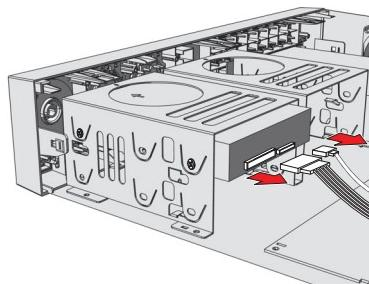

Figure 5. Disconnecting the Data and Power Cables
1. If HDD drives are already installed, disconnect the SATA HDD power connector and data cable (refer to Figure 5):